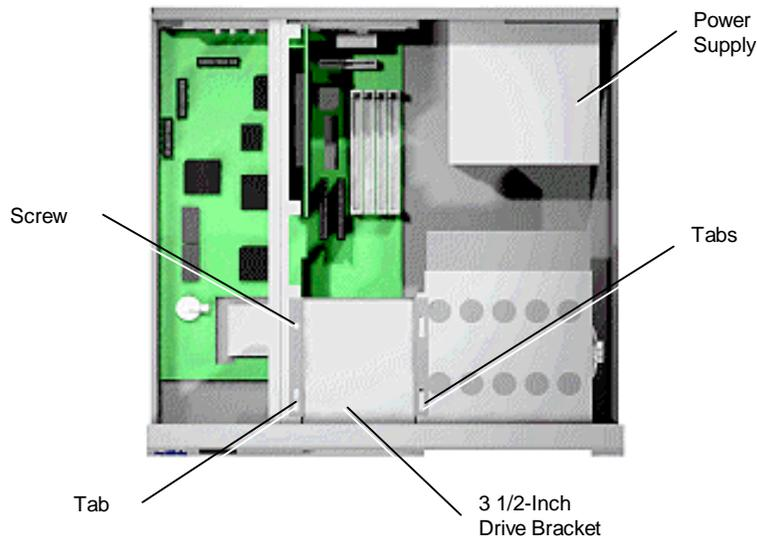

Figure 5-6 3 1/2-Inch Drive Bracket
4. Remove the 3 1/2-inch drive bracket screw (see Figure 5-6).